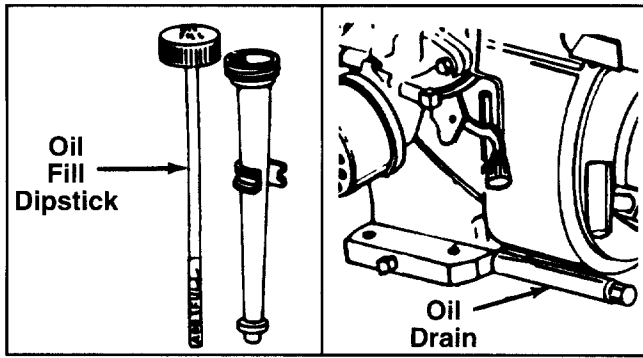

FIGURE 12.
- Use engine oil provided. Remove oil fill dipstick. See figure 12. With chipper-vacuum level, use a funnel to fill engine with oil to FULL mark on dipstick. Capacity is approximately 20 ounces. **Be careful not to overfill.** Oil bottle provided contains 20 oz. of oil. Tilt chipper-vacuum toward the left (from behind the hopper), then re-level. Check oil level. Refill to FULL mark on dipstick if necessary. Replace dipstick and tighten.
Your four-cycle engine will normally consume some oil—therefore, check engine oil level regularly approximately every five hours of operation and before each usage. Stop engine and wait several minutes before checking oil level. With engine cooled down, the oil level must reach FULL mark on dipstick (refer to figure 12). Change engine oil after the first five hours of operation, and every twenty-five hours thereafter.
- a. Remove oil drain cap. Refer to figure 12. Catch oil in a suitable container.